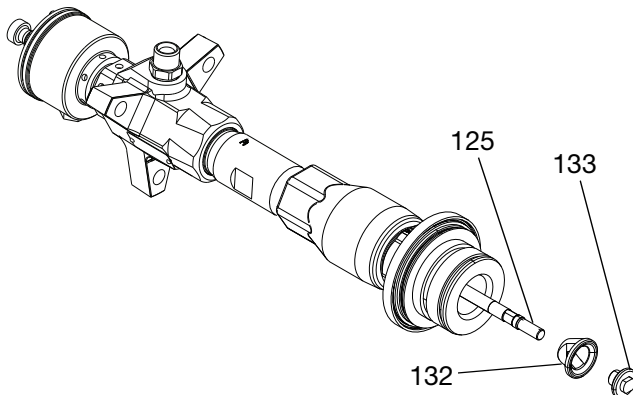

FIG. 45
39. Slide the shovel piston (132) onto the lower shaft assembly (125). Apply thread sealant to the threads on the lower shaft assembly and screw on the shovel nut (133). See Fig. 45. Torque to the following specifications: